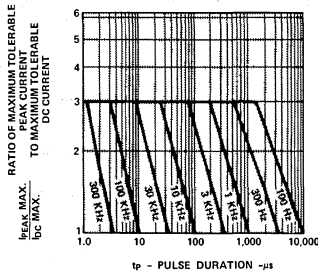

Figure 5. Maximum Tolerable Peak Current vs. Pulse Duration. (I_{DC} MAX as per MAX Ratings).
- See Figure 5 (Red/Orange), 10 (Yellow) or 15 (Green) to establish pulsed operating conditions.